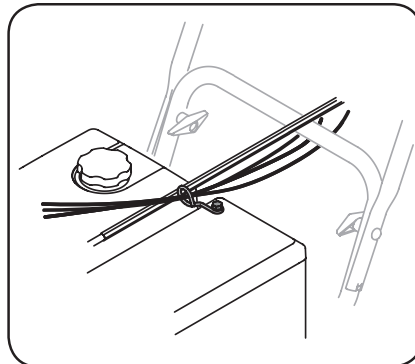

Figure 2-30
9. Check that all cables are properly routed through cable guide on top of engine. See Figure 2-30.
10. Check that all cables are properly routed through cable guide on top of engine. See Figure 2-30.
7. Check that cables are properly routed through cable guide on top of engine. See Figure 2-30.